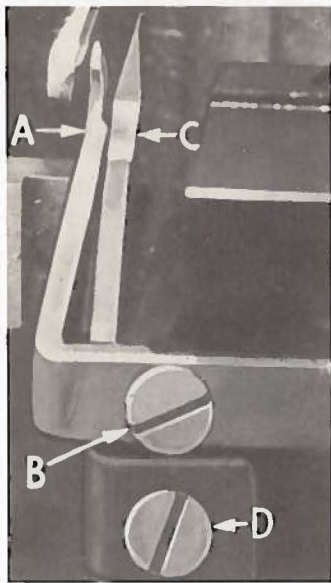

Fig. 7
Set rear needle guard (A, Fig. 7) as high as possible, without interfering with either lower looper or movement of lower knife holder, but still in position to deflect needle forward .002-.004 inch (.051-.102 mm). Screw (B) is used to set rear needle guard. Make sure there is no interference between rear needle guard and lower looper.
Assemble front needle guard (C, Fig. 7). When lower looper is springing needle off rear needle guard, set front needle guard as close as possible to needle without touching. Screw (D) is used to adjust and set front needle guard. After this setting make sure there is no interference between needle guards and differential feed dog.